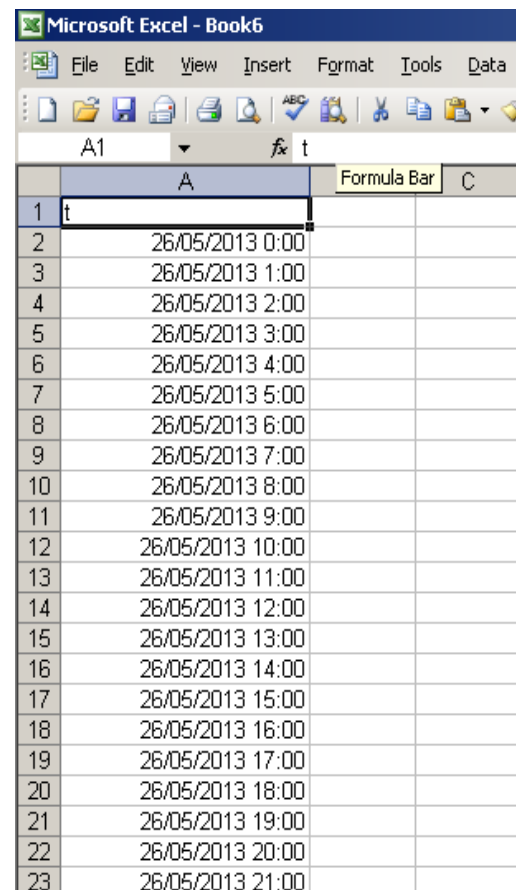

Figure 32: time series in human readable time
3. Fill in column A in the other workbook with a time series, starting at 26/05/2013 00:00:00 and incrementing by one hour (see Figure 32)
- Figure 32 is hourly time stamps, which means that after one hour of simulation time, a value is read from the input file.